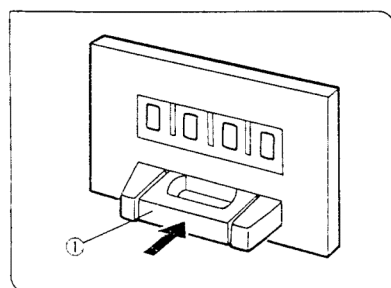

Fig. 10
3. After replacing the burner reset the counter as shown in Fig. 10.